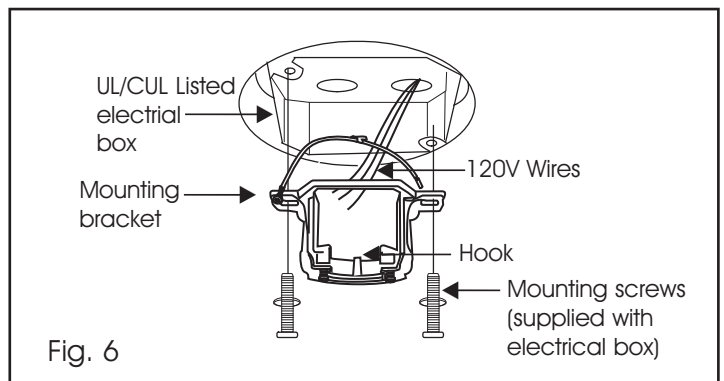

Fig. 6
Step 3. Pass the 120-volt supply wires through the center hole in the ceiling hanger bracket as shown in Fig. 6.